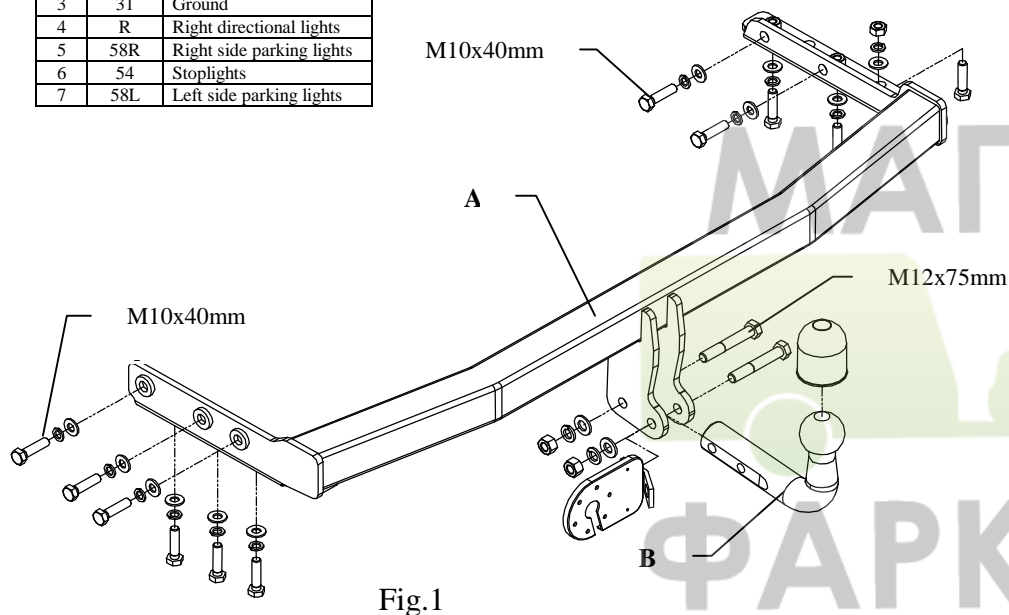

Fig.1
3. Slip bar of the towbar (pos. A) to chassis members and screw using bolts M10x40 mm as shown in the fig. 1.